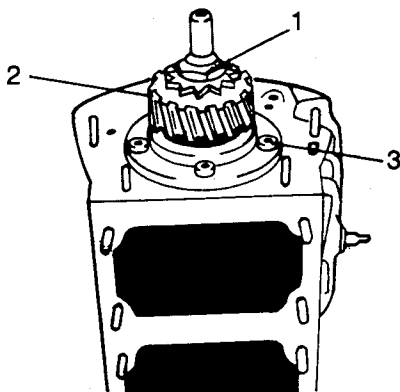

Fig H1.50
- (9) Refer to Fig H1.50. Unscrew the transfer gear nut (1) using special tool 600300.
- (10) Remove the transfer gear (2).
- (11) Remove the oil seal retainer bolts/nuts (3).